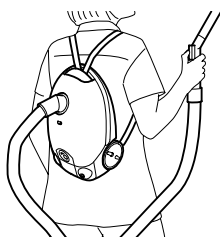

Fig.13
4. You can now carry the vacuum cleaner like a rucksack on your back (Fig. 13).